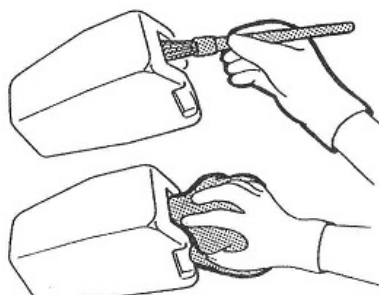

fig.86
5. Wash the inside of the chain collector with kerosene and dry it. (fig.86)